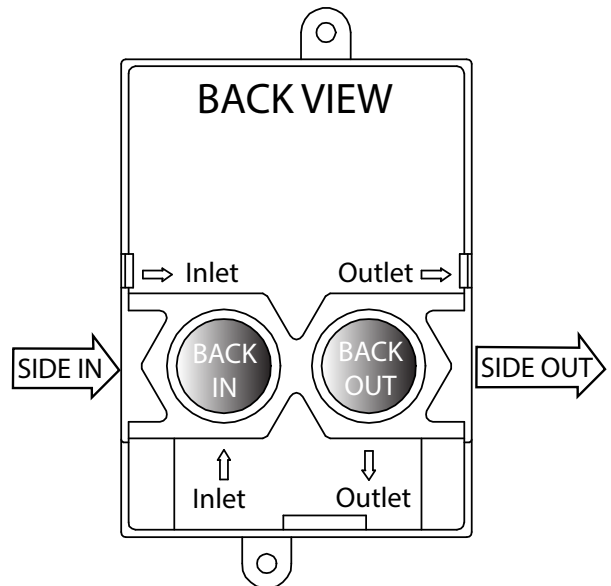
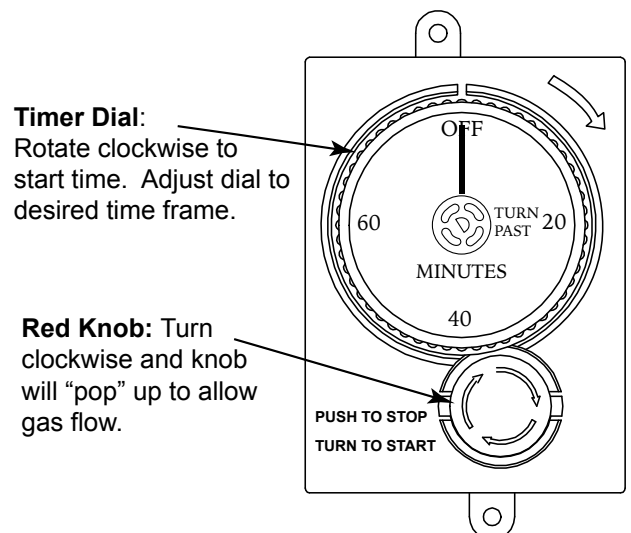
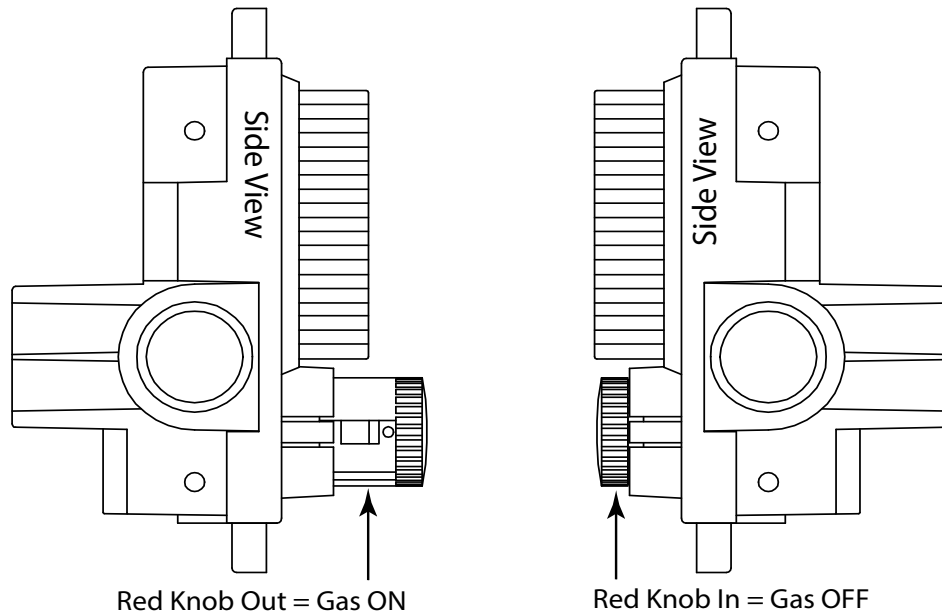

Fig. 2 Inlet and outlet connections.
Fig. 4 E-STOP operation.
Fig. 5 E-STOP Gas Timer red knob positions
The E-STOP is designed to be installed in an up-right position as shown in Fig 3, view "D" or Fig. 4. It has two (2) inlet and two (2) outlet gas connections. The diagrams below provide possible ways to plumb the E-STOP (See Fig. 3). Two (2) ½" NPT plugs are provided with the E-STOP. Plug the inlet and outlet connections not being used for the application. Connect gas supply to the inlet with the arrow → pointing into the valve. Connect outlet side to the gas appliance (See Figs. 2 & 3 for details).
**TO TURN OFF:** Let timer expire or simply press red knob inward until it stops. The red knob will lock down with a "click" and stop gas flow. See Fig. 4 and Fig. 5 on following page.